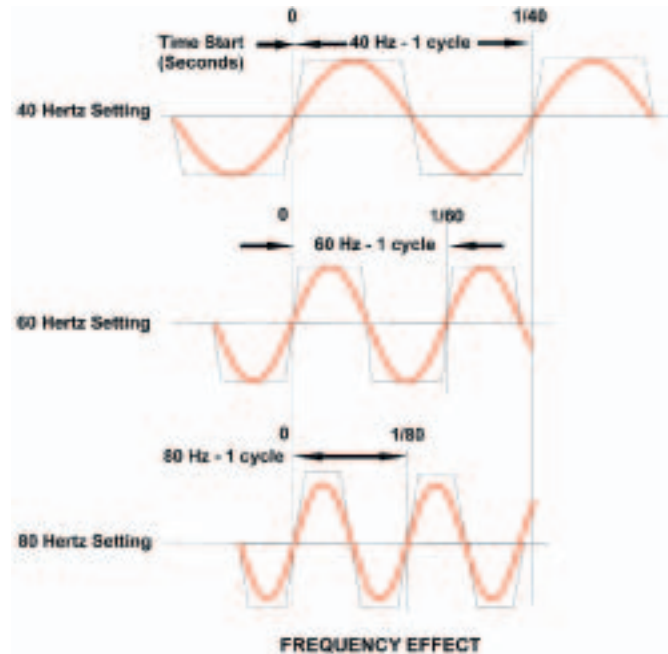

Figure 8
While frequency is historically accepted to be fifty or sixty hertz, the Power Wave AC/DC 1000™ can function at any chosen frequency between zero (DC) and 100 hertz. Frequency can play an important role in a specific welding procedure. Relative to a “normal” sixty hertz, deposition rates can be slightly increased or decreased as can penetration. Frequency alters the total time for the arc to be at peak values. As the frequency decreases, more time is available at peak value and – more importantly – less time is spent in the transition region. The converse occurs as frequency is increased. Figure 8 (frequency effect) illustrates this by showing what occurs during one complete cycle.